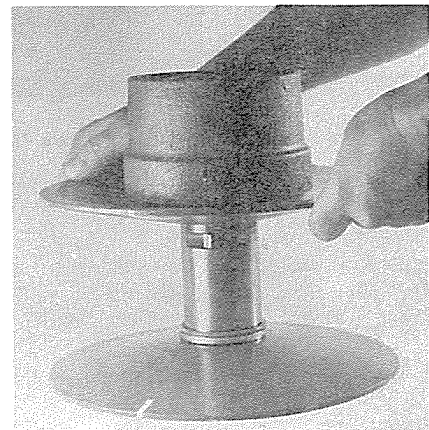

Figure 18
4. Align the index marks of the flanges and carefully slide the outboard flange over the sleeve of the inboard flange (Figure 18). **Do not** pinch the o-ring while feeding it over the sleeve. Guide the ends of the torsion key into the keyways in the adjustable flange. **Do not** lower the flange all the way.